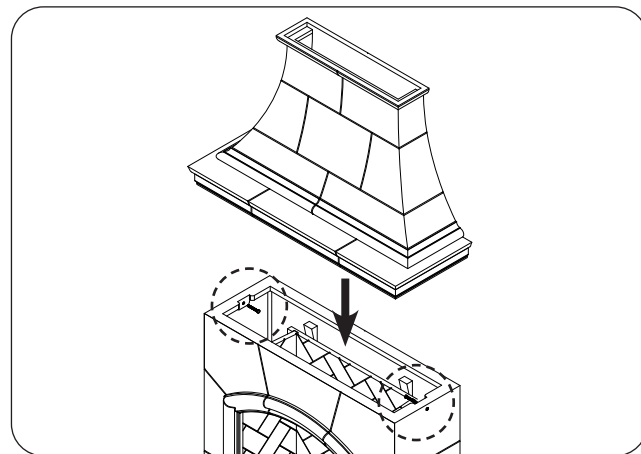
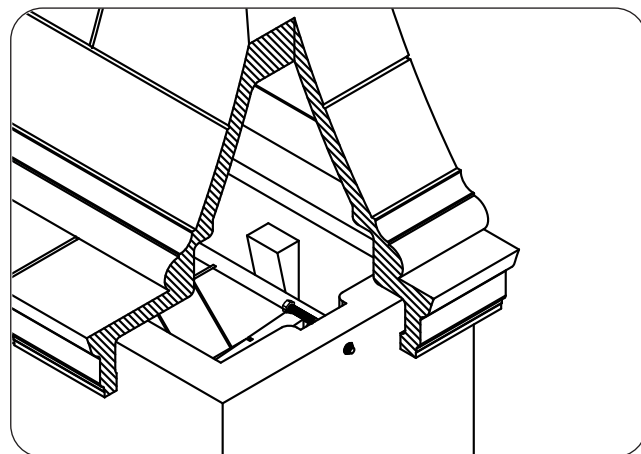

Fig. 27-1 Assemble chimney
Fig. 27-2 Bolt detail
1. Place the chimney piece on top of the body piece. See Fig. 27-1.
2. The left and right sides of the body interior each have a pre-installed bolt for securing the chimney. Reach up through the body and tighten the two bolts using a $\frac{9}{16}$ " open end wrench (or equivalent). See Fig. 27-1 and Fig. 27-2.